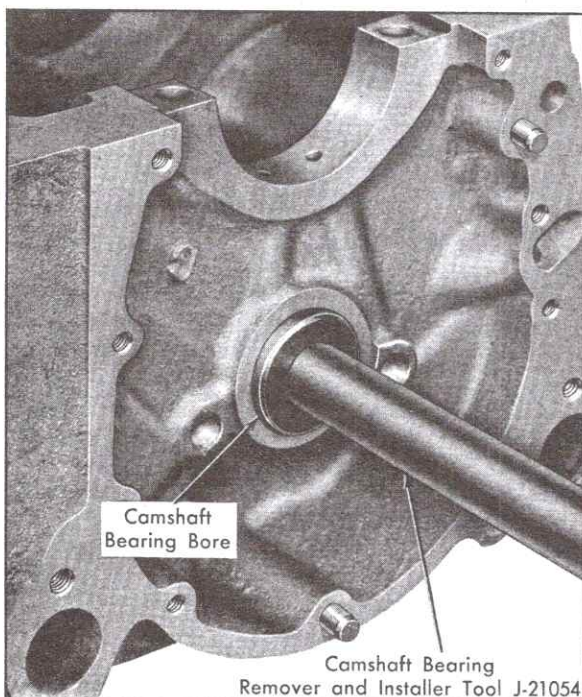

Fig. 6-150 Camshaft Bearing Removal
6. Thread Arbor, J-21054-2, on end of Drive Shaft, J-21054-1, and position shoulder on arbor against front face of No. 1 bearing, Fig. 6-150.